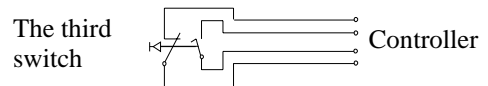

Figure 14 Connections of the switches
**Switches axis 1** (see Figure 14)